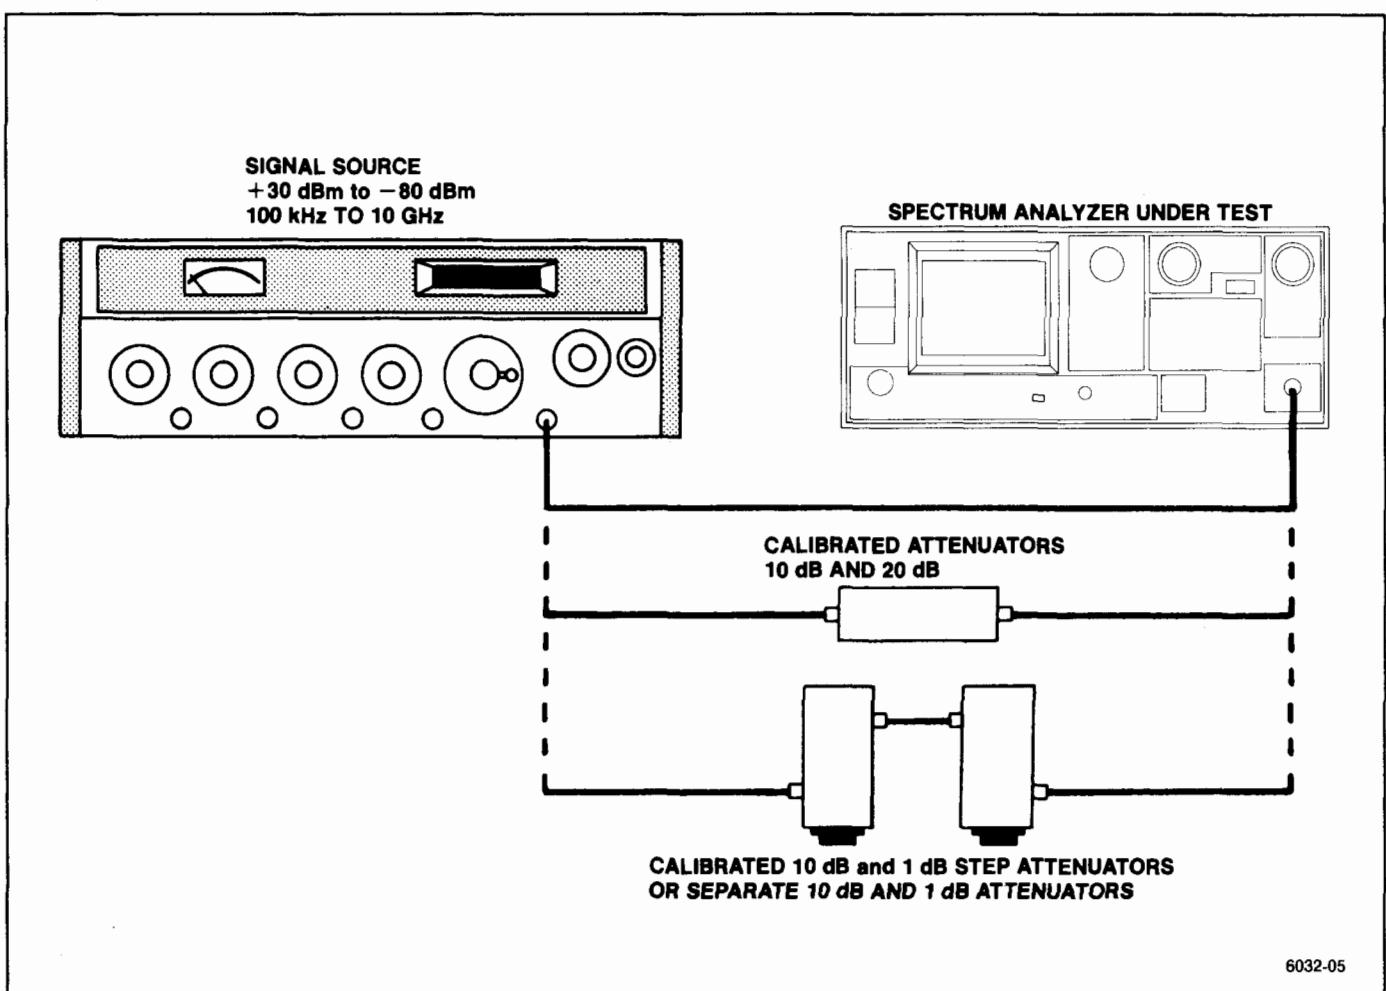

Figure 4-12. Test equipment setup for checking display accuracy.
a. Connect the test equipment as shown in Figure 4-12, using the 10 dB and 1 dB step attenuators. Set the Spectrum Analyzer controls as follows:
a. Connect the test equipment as shown in Figure 4-12, omitting the step attenuators. Set the Spectrum Analyzer controls as follows: